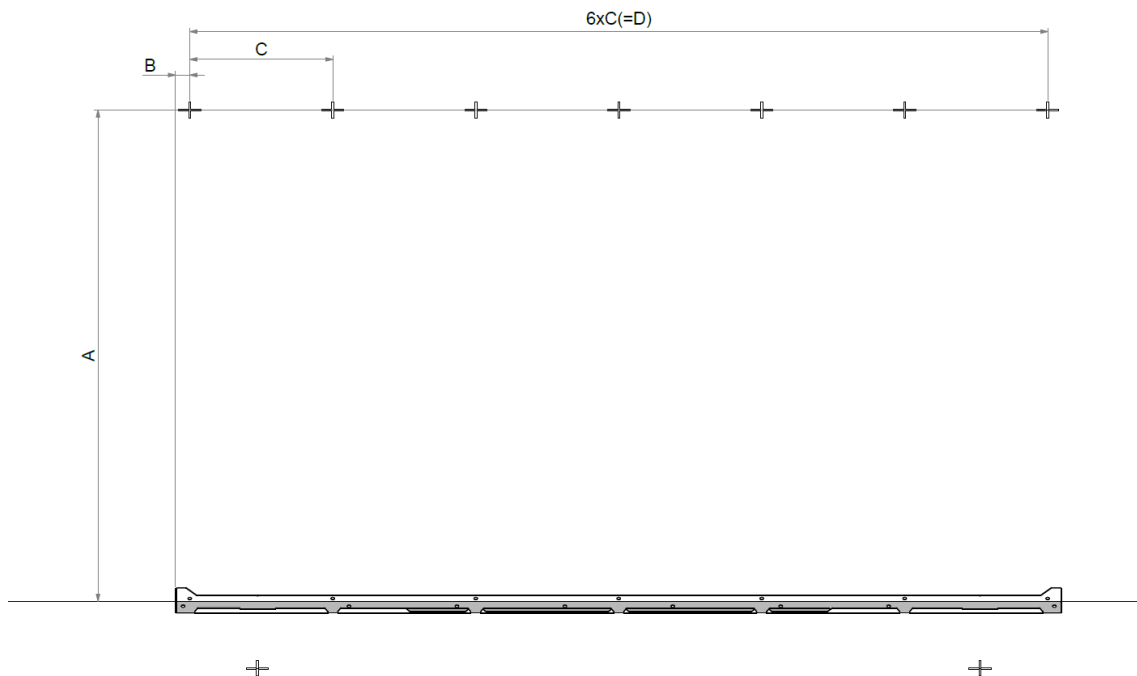
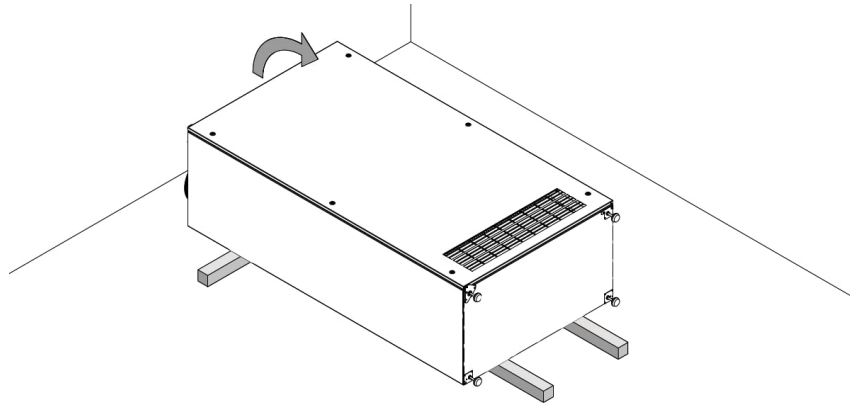

Figure 14: Distances from rear bracket to front bracket
Figure 25: Place laths/battens/blocks of wood before lifting the unit
3. Mark the holes for the front bracket, see Figure 14, Figure 25 and Table 8.
1. Before lifting the unit into an upright position place some laths/battens/blocks of wood as depicted in Figure 25. Without this, the height-adjustable feet may break or deform once the unit is lifted. Make sure the feet are as short as possible.